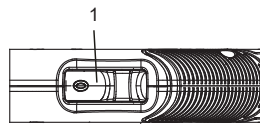

Fig. 7
To turn the Blower/Sweeper ON, slide the ON/OFF switch (1) forward (Fig. 7). To turn the Blower/Sweeper OFF, slide the ON/OFF switch toward the rear of the tool.